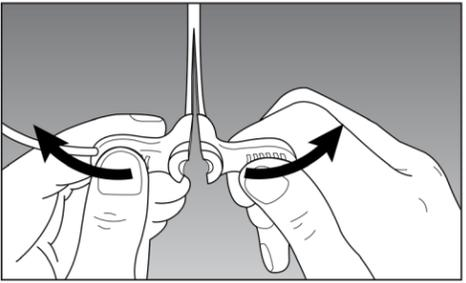

Figure 2
18. Then remove the sheath by sharply snapping the tabs of the valve housing in a plane perpendicular to the long axis of the sheath to split the valve and peel the sheath apart (see Figure 2).